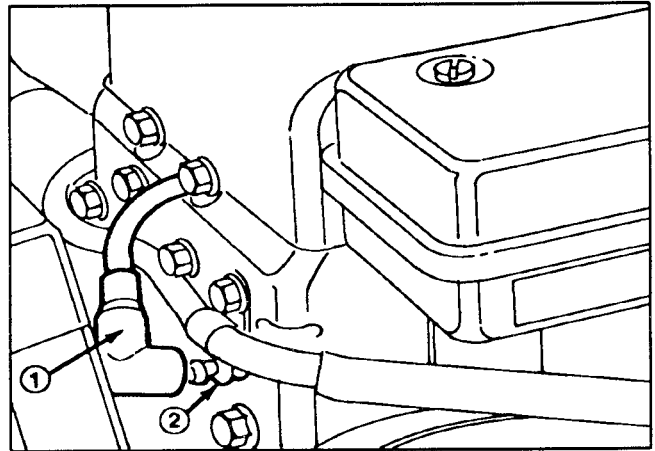

Figure 17
2. Pull the wire off the spark plug and remove the plug from the cylinder head (Fig. 17).